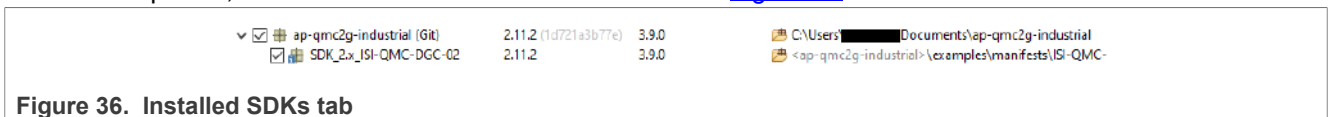

Figure 36. Installed SDKs tab
4. Once imported, the *Installed SDKs* tab looks as shown in Figure 36: